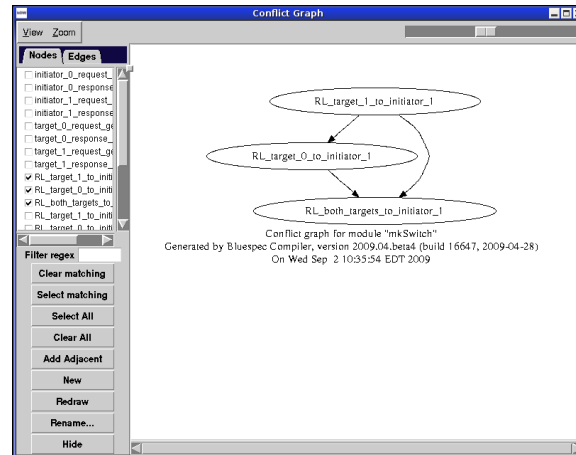

Figure 22: Conflicts Graph with filter options
- Filter the graph by selecting specific nodes and edges to display or to remove from the graph. The conflict graph in Figure 22 shows the filter options on the left side of the window.
The conflicts graph, shown in Figure 22, displays rules/methods which conflict either completely (they cannot execute in the same cycle) or in one direction (if they execute in the same cycle, it has to be in the opposite order). Complete conflicts are represented by bold non-directional edges. Ordering conflicts are represented by dashed directional edges, pointing from the node which must execute first to the node which must execute second.
When a group of nodes form an execution cycle, as shown in Figure 22, the compiler breaks the cycle by turning one of the edges into a complete conflict and emits a warning. This graph is generated before that happens, so it includes any cycles and can be used to debug any such warnings.